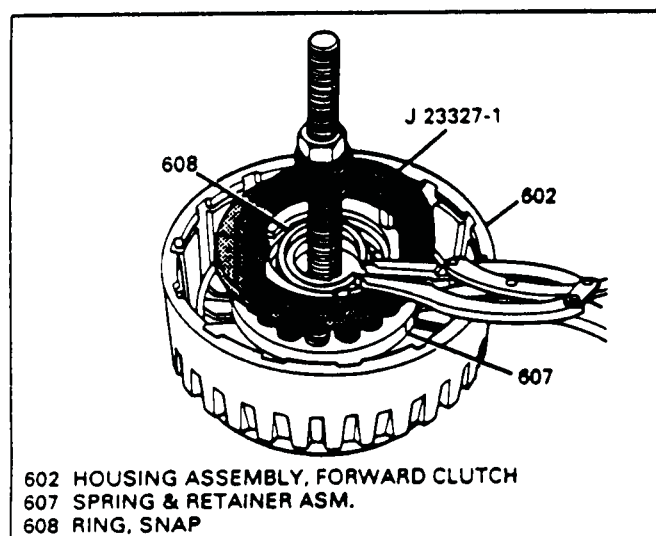

Figure 81
5. Compress the return spring assembly as shown in Figure 81, and remove the snap ring with snap ring pliers.